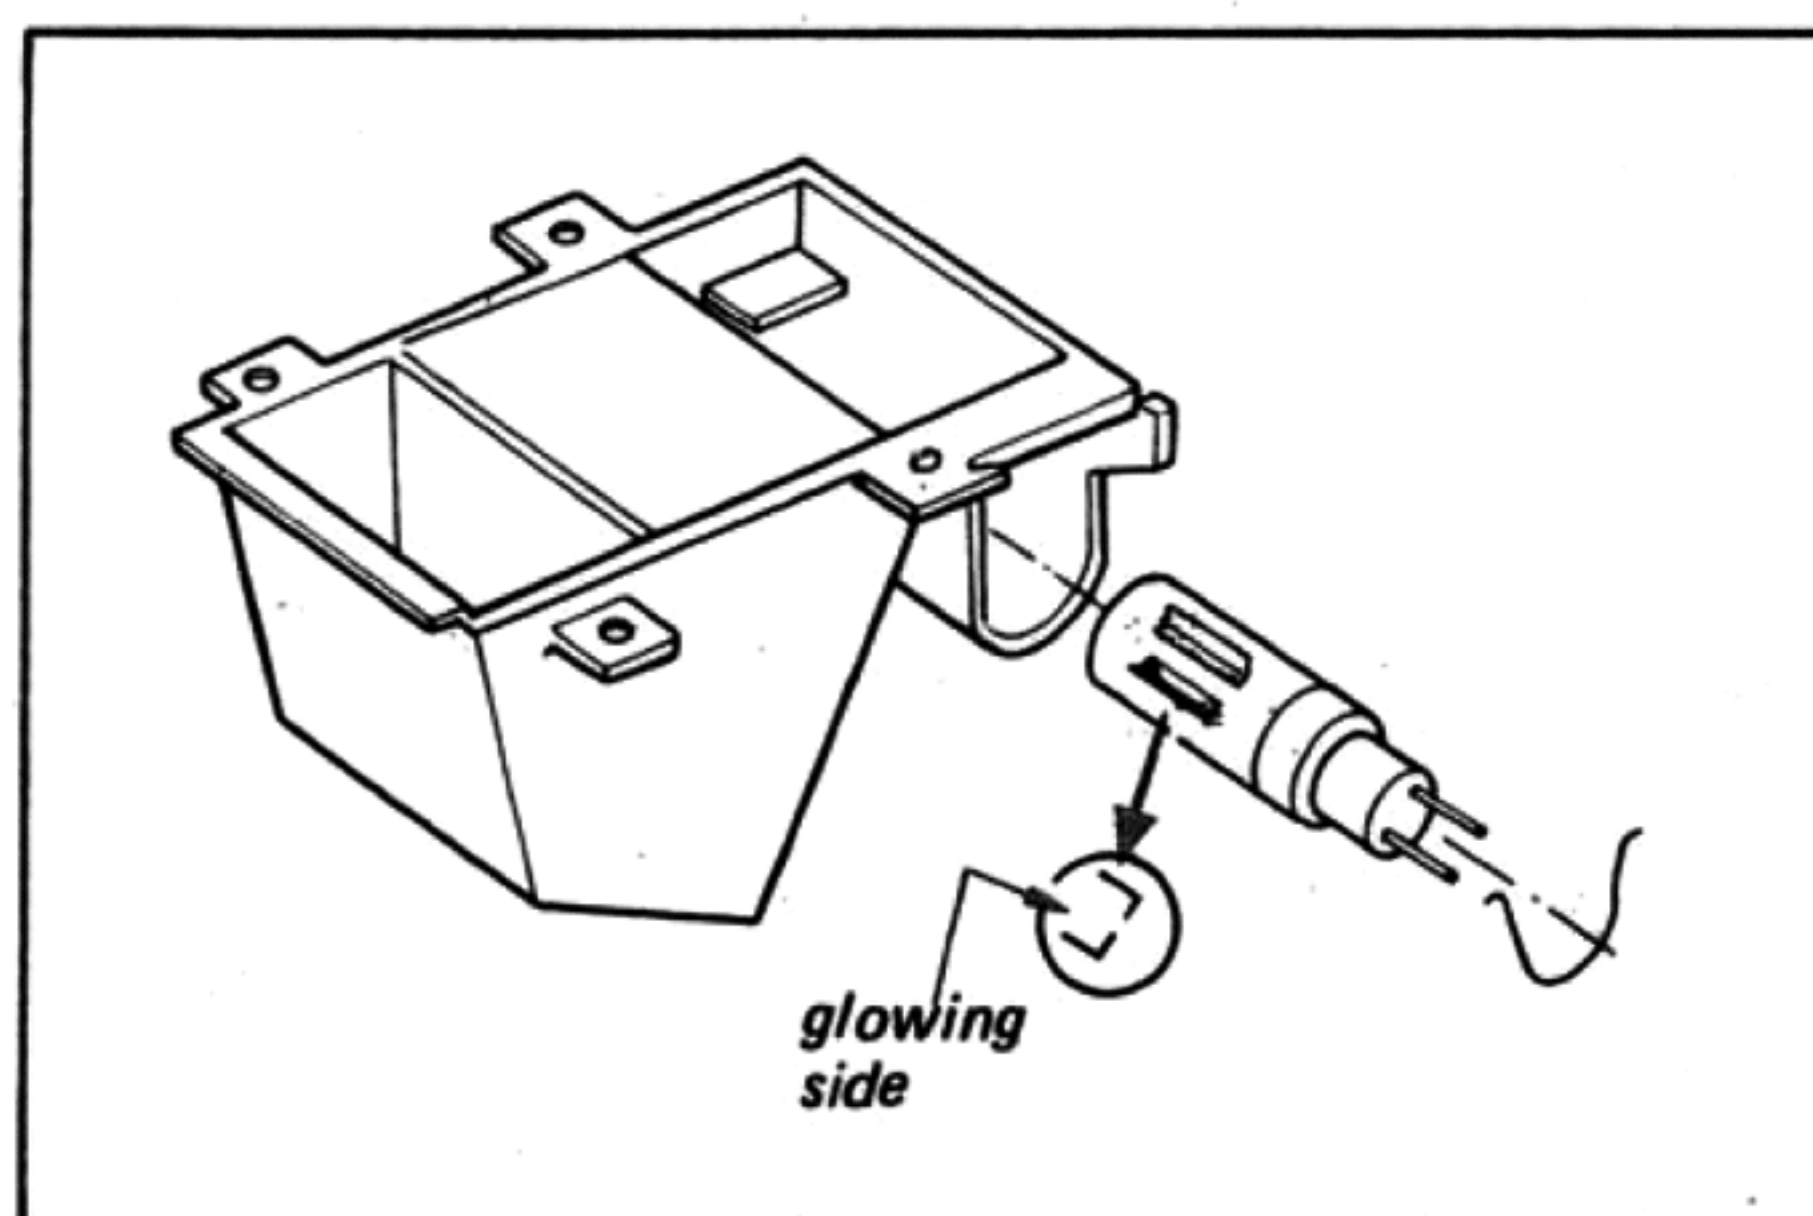

Fig. 2-10. Strobe lamp removal and installation
and then apply a drop of cement solvent to the lamp. Wait a few seconds, and then push out the defective lamp as shown in Fig. 2-10.
4. Install a new strobe lamp. Take care that the glowing side (front) of the lamp is positioned as shown in Fig. 2-10.